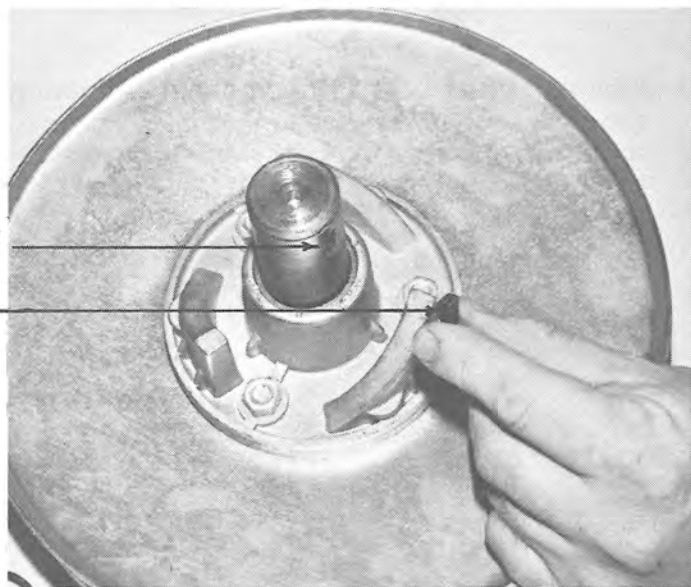

FIG. 4-19
4. Remove key and main spring. (See Figure 4-19).